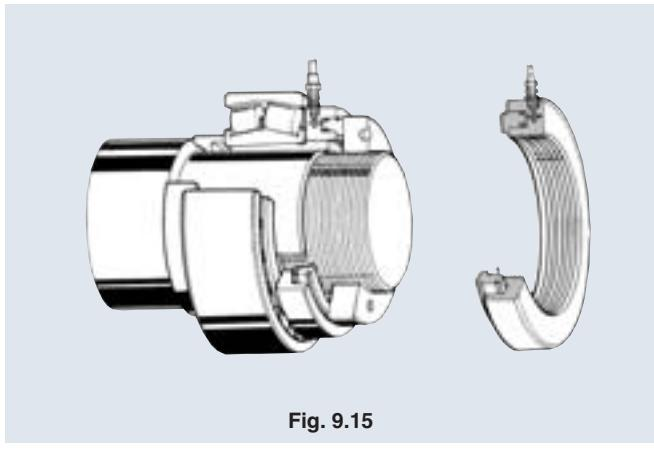

Fig. 9.15
(7) If it is difficult to tighten a large bearing by manual force, use a hydraulic nut or ram for easier assembly. (**See Fig. 9.15.**)